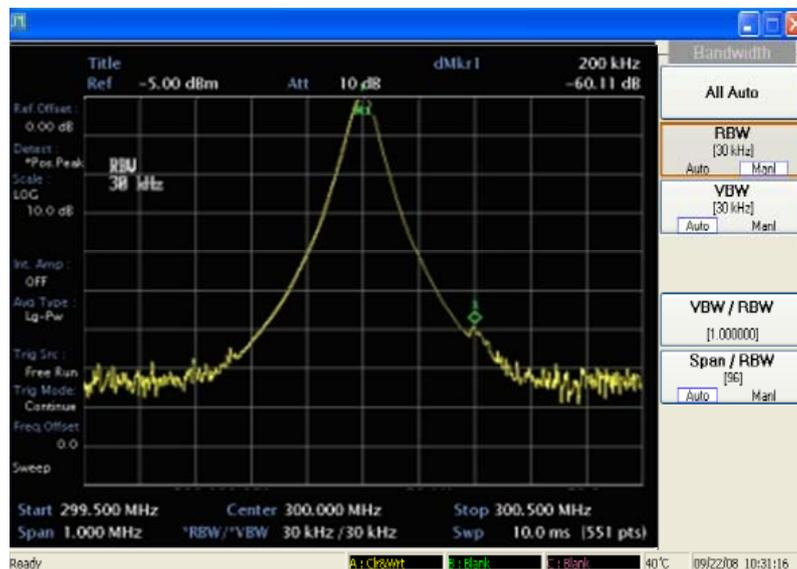

Fig. A-6 Signal resolution with a 30 kHz resolution bandwidth
- 5 Place a marker on the smaller signal by pressing [MARKER], [Delta], [PEAK], [Next Pk Right]. If a 30 kHz filter is used, the 60 dB bandwidth could be as wide as 450 kHz. Since the half-bandwidth (225 kHz) is wider than the frequency separation (200 kHz), the signals will most likely not be resolved (Fig. A-6). (In this example, we used the 60 dB bandwidth value. To determine resolution capability for intermediate values of amplitude level differences, assume the filter skirts between the 3 dB and 60 dB points are approximately straight.)